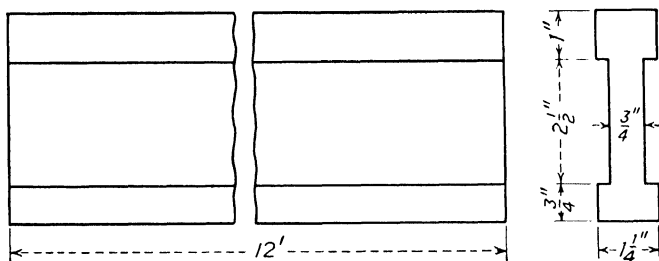

Fig. 92.—I beam.
14. Find the weight of the spruce I beam, shown in Fig. 92.